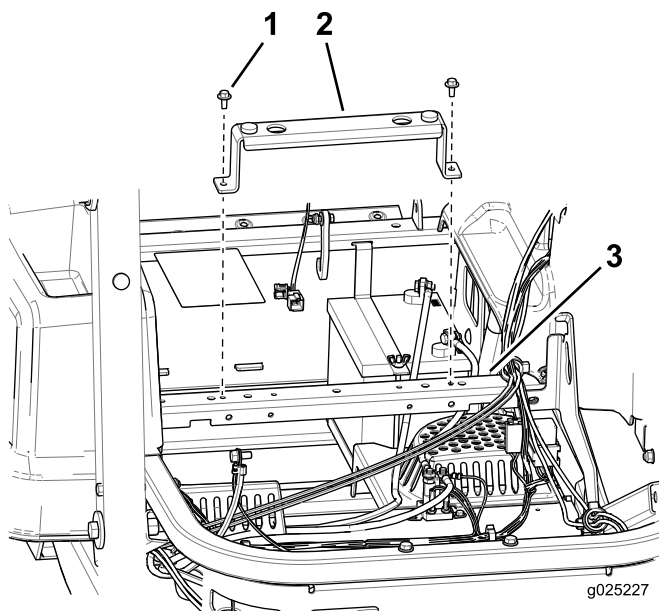

Figure 5
4. Install the seat support to the frame of the machine with 2 thread-forming bolts (1/4 x 1/2 inch) (Figure 5).